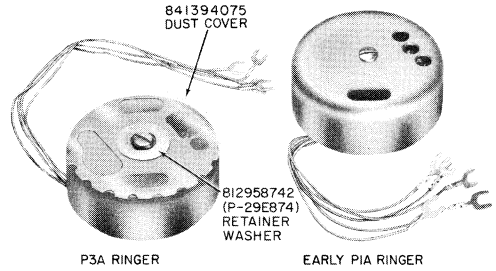

Fig. 1—P-Type Ringer
1.02 This section contains information for the P1A (MD), P1B (MD), P2B (MD), P3A, P3B, and P3C ringers (Fig. 1).